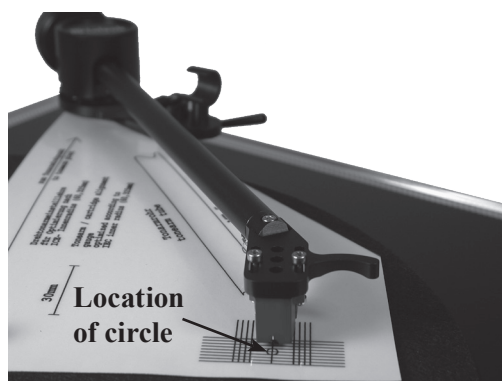
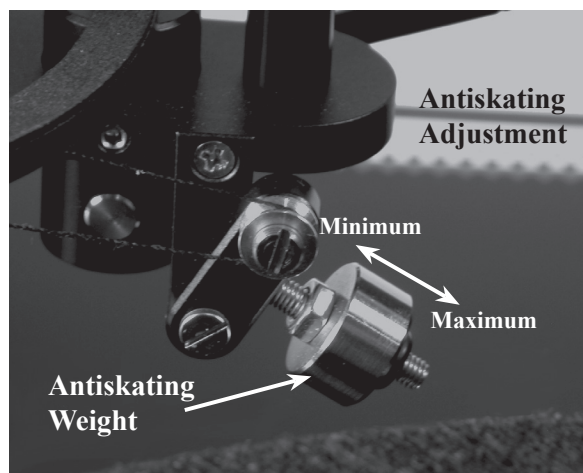

Figure 22
Figure 32
3. With the Anti-Skate Adjustment set to minimum (refer to figure 32), carefully place the Tone Arm onto the Alignment Gauge with the diamond tip of the stylus on the center of the small circle located between the parallel lines. Refer to figures 22 and 23.
The MT2 is supplied with a Stylus Tracking Force Gauge for checking and adjusting the Stylus Tracking. The Gauge uses the "Balance Scale" methodology for measurement. Place the Gauge on the record mat and perpendicular to the front of the Tone Arm, with the Stylus Tip over graduation marks. Set the Anti-Skate Adjustment to minimum (refer to figure 32). Adjust
The MT2 has adjustable Anti-Skating to equalize the pressure on both sides of the record groove wall by rotating the Anti-Skating Weight Up and Down the threaded shaft, refer to figure 32.